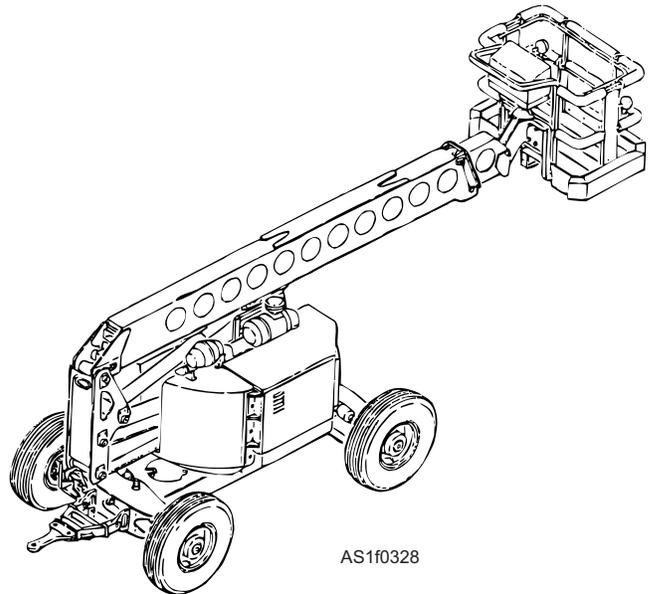
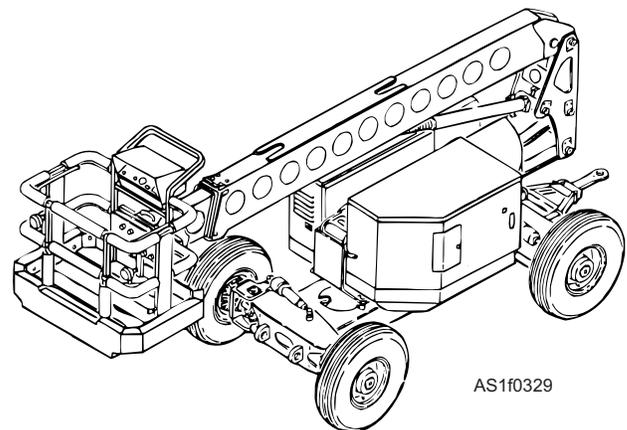

Figure 1-30.—A/S48M-2 diesel servicing platform.
Figure 1-31.—A/S48M-3 electric servicing platform.
**A/S48M-2 (DIESEL) AND A/S48M-3 (ELECTRIC) SERVICING PLATFORMS.**—The platforms, A/S48M-2 diesel powered (fig. 1-30) and A/S48M-3 electric powered (fig. 1-31) are used to